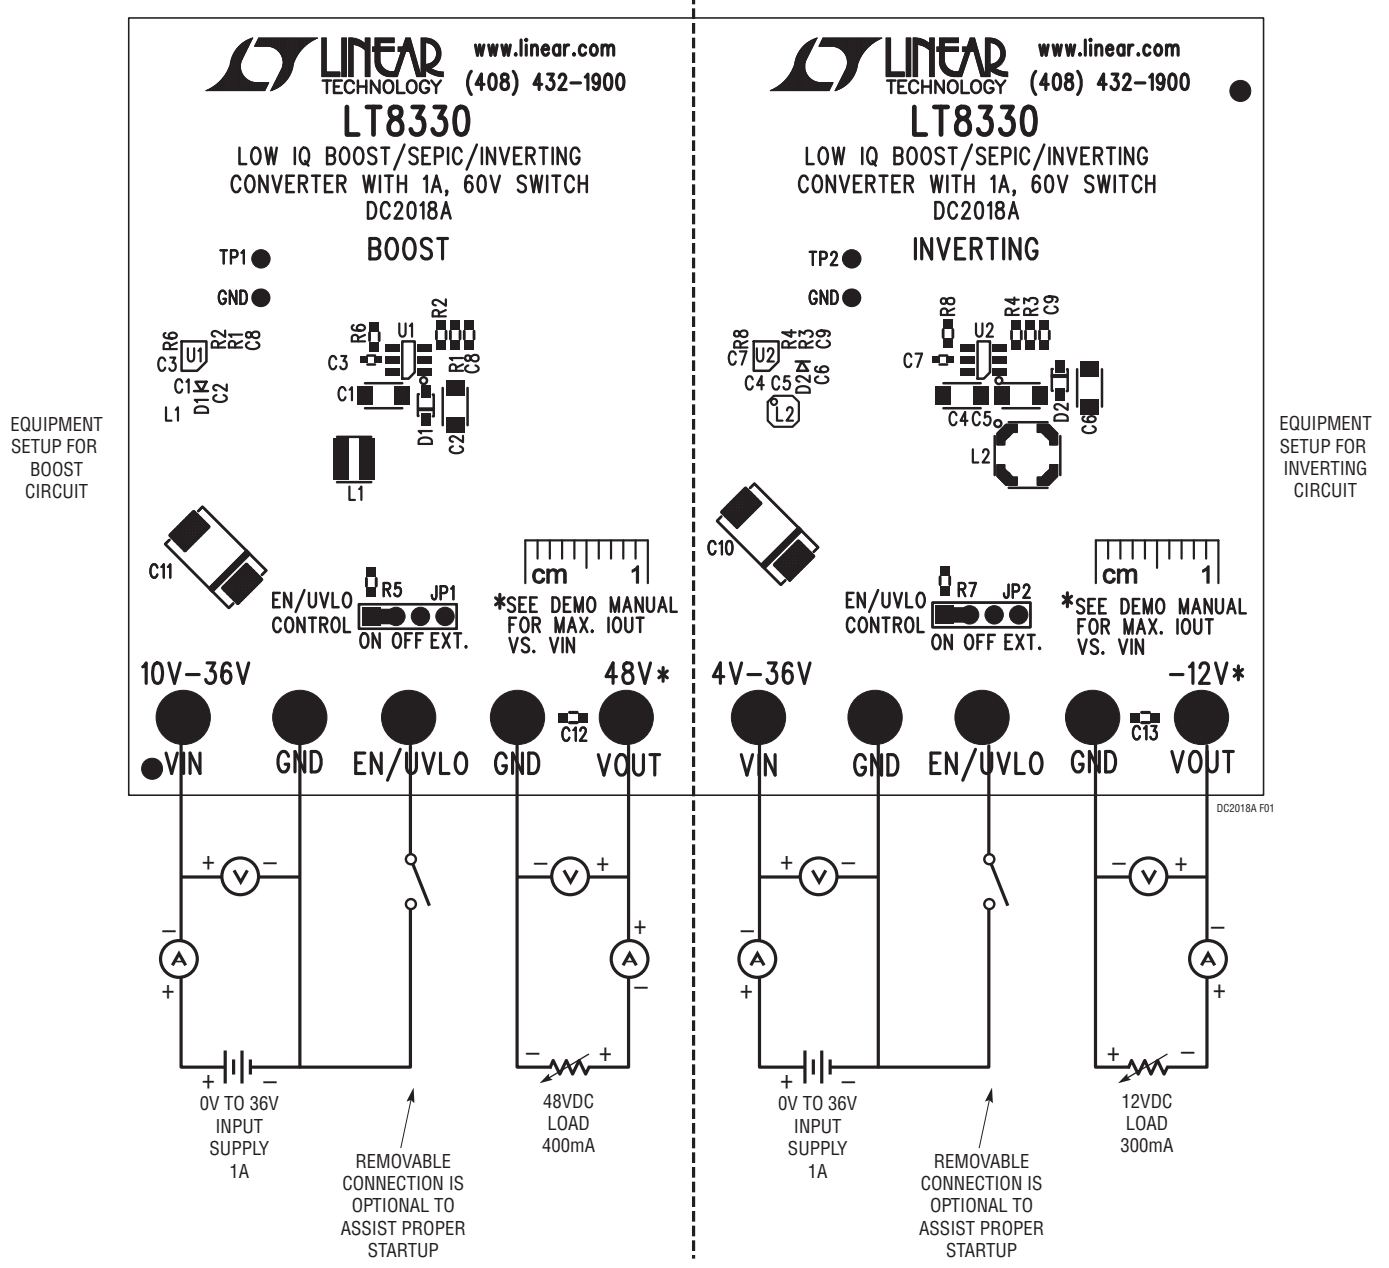

Figure 1: Proper Measurement Equipment Setup for DC2018A
To evaluate the performance of the LT8330 using either the boost or inverting circuits of DC2018A, refer to Figure 1 for the proper measurement equipment setup, the Performance Summary for the maximum output current versus input voltage and then follow the procedure below.
2. Connect the EN/UVLO terminal to GND with a clip-on lead. Connect the power supply (with power off), load, and meters as shown in Figure 1.